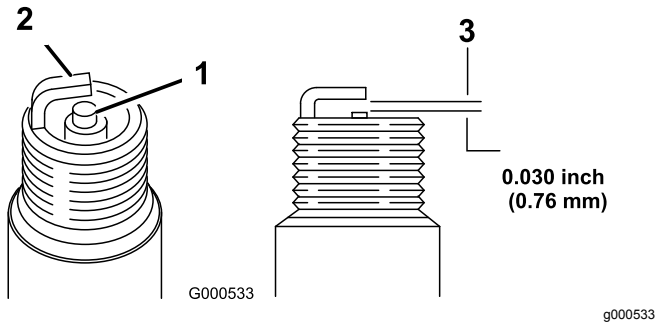

Figure 20
5. Set the gap on the plug to 0.76 mm (0.030 inch) as shown in Figure 20.